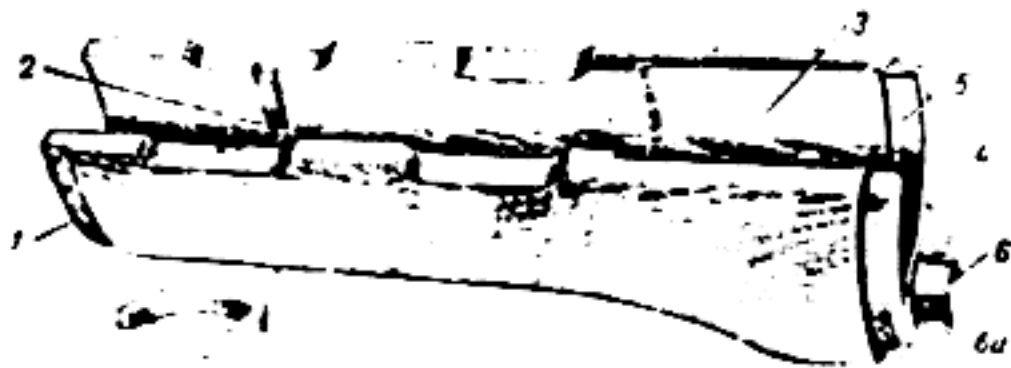

Figure 47. Fore end (assy.6).
The fore end (fig. 47) makes handling of the rifle more convenient and protects the hands of the rifleman from burns during intensive firing. It has a shoulder (1) for the band, notch (2) for clamp (7), recess (3) for the rear sight base lug, clamp (4) for protecting the fore end from splitting, notch (5) for the barrel lug, lug (6) for attaching the fore end to the receiver. In the fore end there is a channel for passing the cleaning rod.